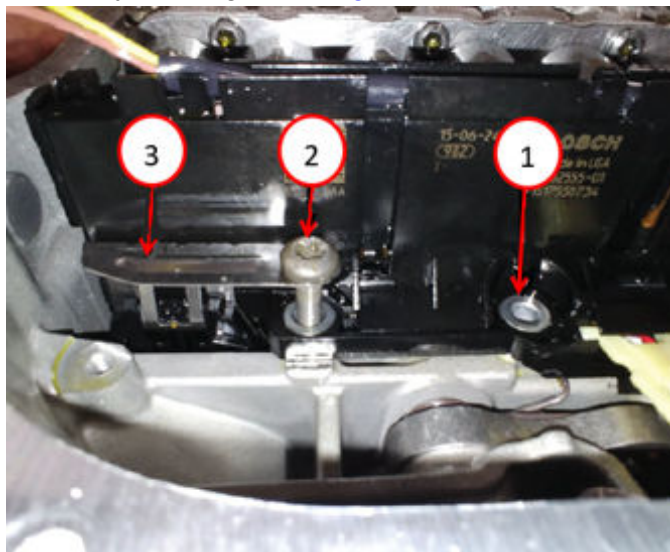

Fig. 44
65. Latch the electrical connector lock by pushing down Fig. 44.